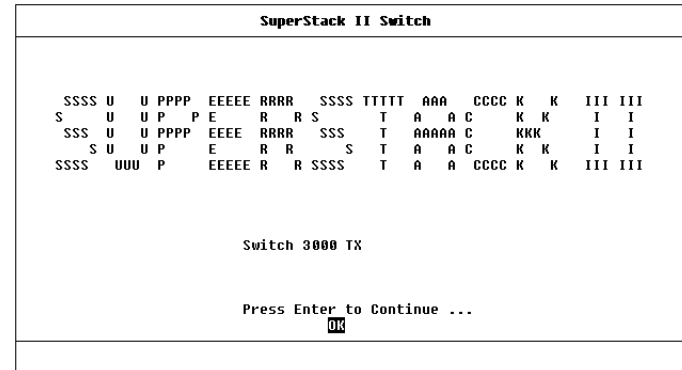

Figure 3-1 Main Banner
- 1 At your terminal, press [Return] one or more times until the Main Banner is displayed (shown in Figure 3-1). The console port detects the line-speed (baud rate) from these keystrokes and defaults to: